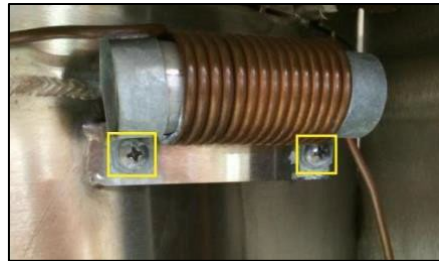

Figure 7 - Purge Coil Screws
- 2.4.1 For Cabinet Series and MVE (Open Top) Series, this will be on the back of the Freezer. Remove the rear panel of the cabinet. Remove screws securing purge coil clamps at the upper battery backup mount inside the rear enclosure. See Figure 7.